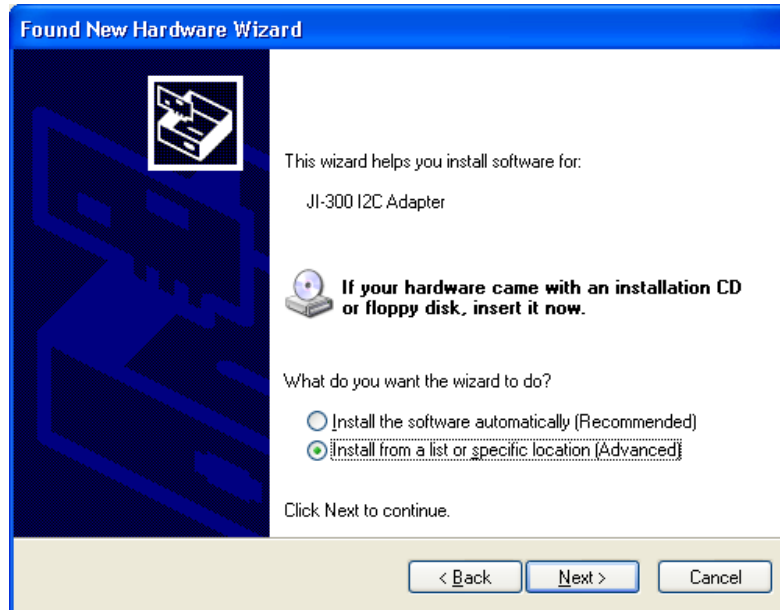

Figure 2. Found New Hardware Wizard Window #2
- At the “Found New Hardware Wizard” window (Figure 2), select “Install from a specific list or location (Advanced)”, and then click “Next”.